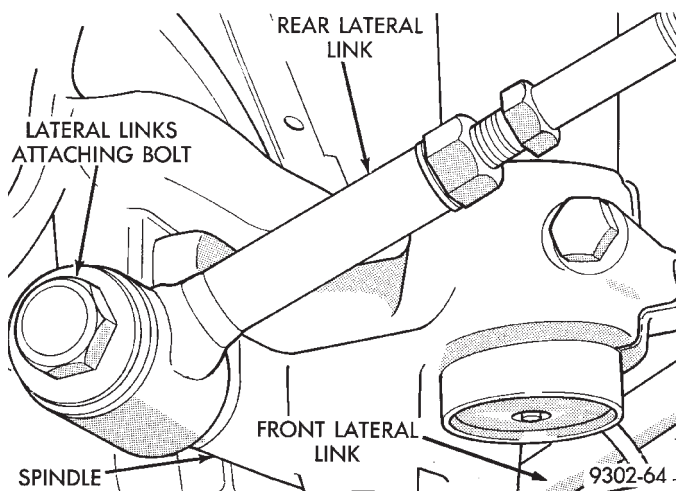

Fig. 11 Lateral Links To Spindle Attaching Bolt
(3) Install the lateral links to spindle attaching bolt (Fig. 11) Torque the lateral links to spindle attaching bolt to 140 N•m (105 ft. lbs.).